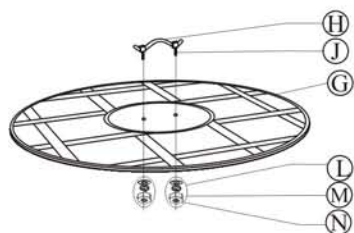

Figure 5
Insert a 1/4" x 28mm Headless Bolt (J) into each of the pre-drilled holes in the Cover Handle (H). Tighten bolts. Do not over tighten. Guide other end of Headless Bolts through holes in Fire Bowl Cover (G) as shown in Figure 5. Add a 1/4" washer (L), a 1/4" lock washer (M), and a 1/4" nut (N) to the end of each bolt. Tighten. Do not over tighten.